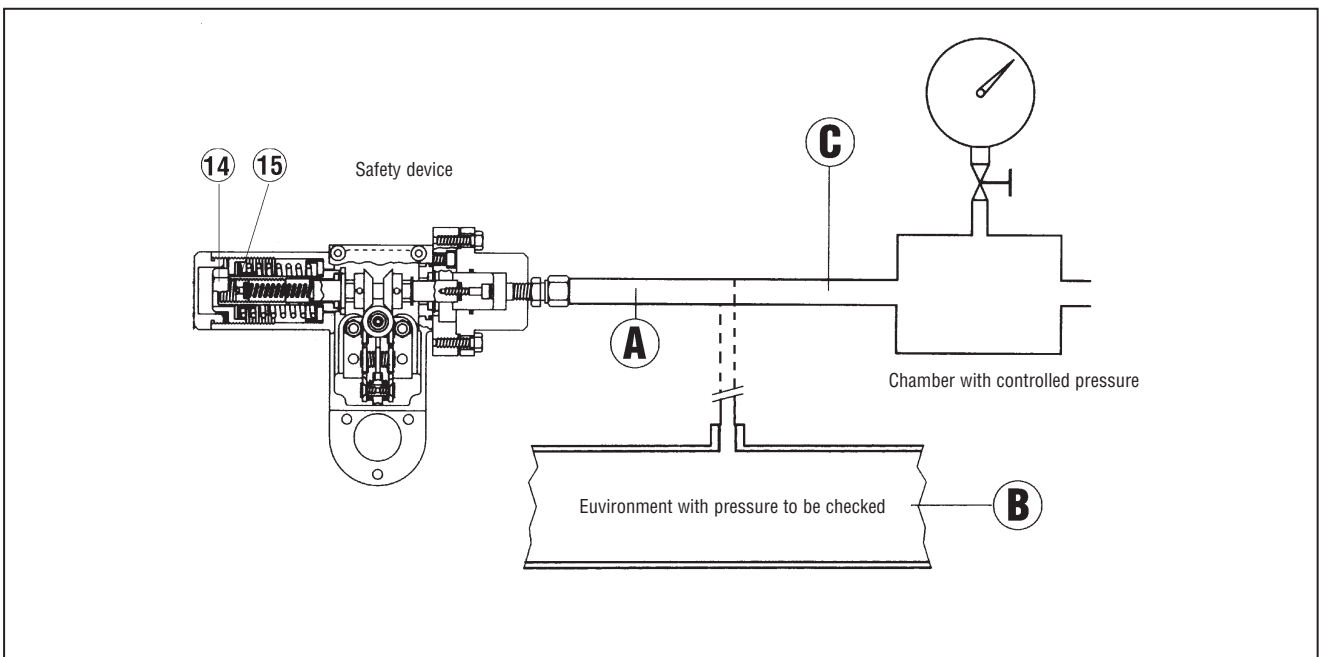

Fig. 25
B) On devices without the "push" valve (fig. 25) we recommend separately connecting the control head to a controlled auxiliary pressure and repeat the operations described above.
- B) On devices without the "push" valve, it is advisable to connect the control head separately to a controlled auxiliary pressure and repeat the operations described above (fig. 25).
- B) With devices without the "push" valve, it is advisable to connect the control head separately to a controlled auxiliary pressure and repeat the operations described above (fig. 25).